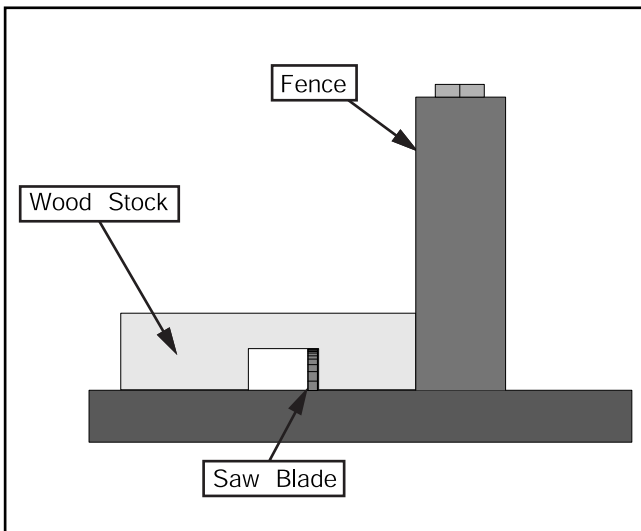

Figure 33. Single-blade dado cut.
3. If dadoing along the long length of your workpiece, adjust the fence so the blade is aligned with the inside of your dado channel as shown in **Figure 33**.